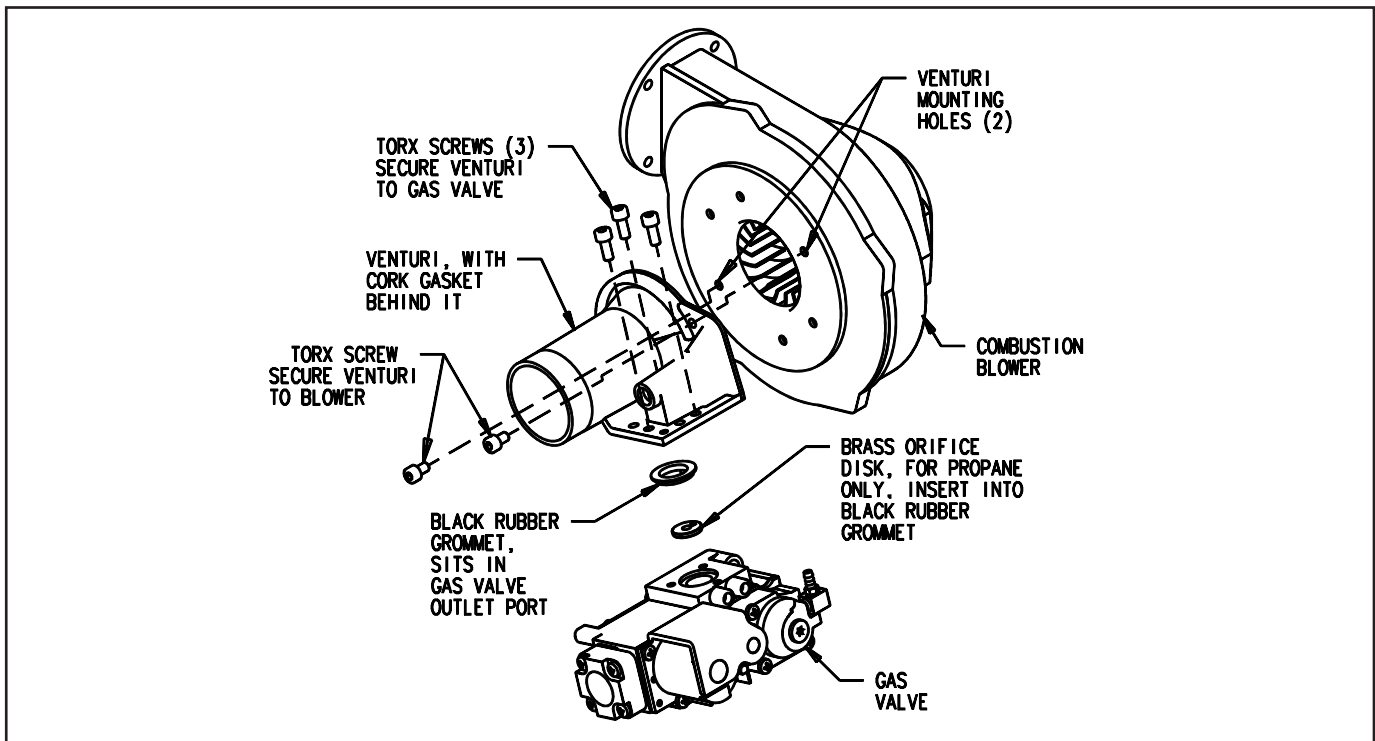

Figure 27. Propane orifice installation.
4. Remove the 3 Phillips screws securing the gas valve to the venturi. (See Figure 27).